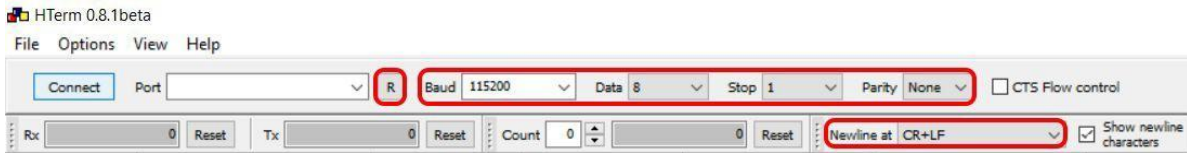

Figure 12. Connecting the USB Port
Connect the TeraRanger Multiflex PCB to your computer and select the corresponding USB port (click "R" button to refresh the port list). Select values for the following fields: (1) Baudrate, (2) Data Bits, (3) Parity, (4) Stop Bits. For easier readings, select the "CR+LF" option for "Newline at" tab. See Figure 12 for visual instructions.